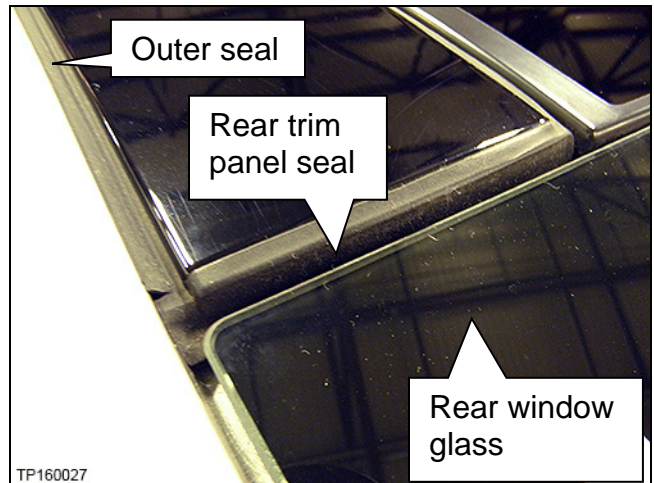

Figure 33
12. Tuck the rear trim panel seal under rear window glass (Figure 33).